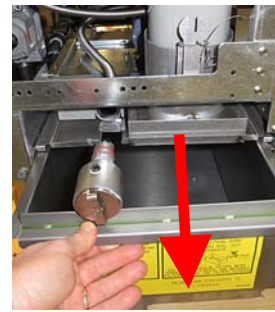

Figure 6
8. Remove the filter pan (see Figure 6).